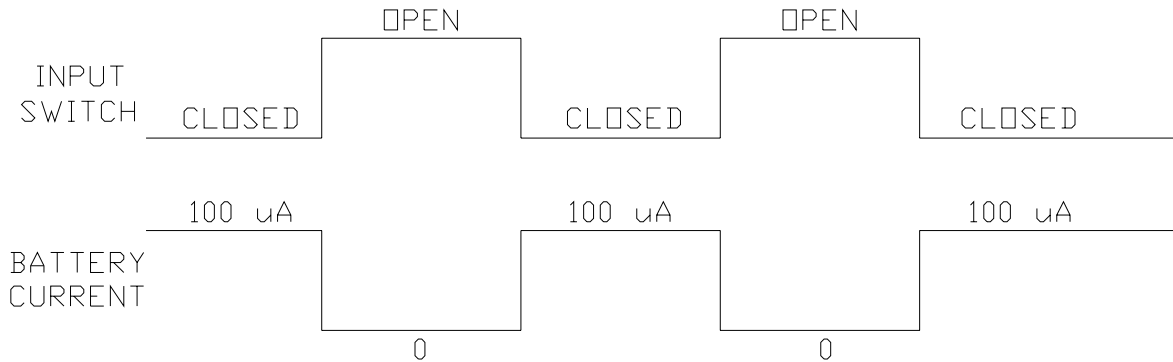
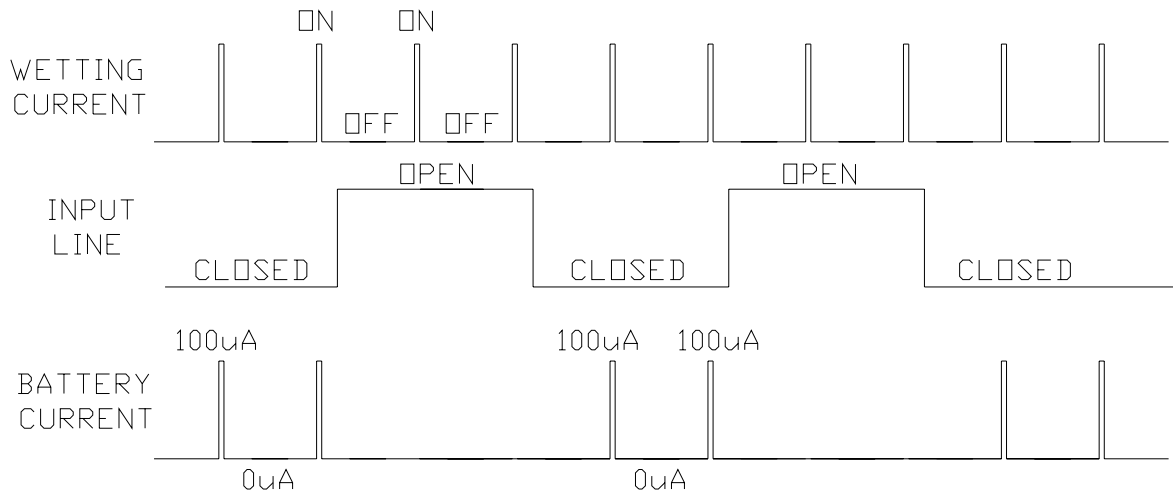

Figure-1
Figure-6
In order for a switch event to be recognized a small amount of current must pass through the switch contacts. This is called "wetting current" and is 100 μA (0.0001A) *per input*. Current is only consumed when the switch closes, as shown in Figure-1.
The "duty cycle" is the ratio of the amount of time the switch is in one state versus the amount of time it's in both states. Figure-1 shows a 50% duty cycle. Assuming all 8 inputs are like this, a total of 3.5 A/hr of battery capacity will be consumed each year (100 μA x 8 switches x 50% duty cycle x 24 hours per day x 365 days per year).
The wetting current is really only needed during the time that the SIP-CB is sampling the inputs. Otherwise it can be turned off to conserve power. This is illustrated in Figure-6. Now instead of each input drawing 100 μ A for 50% of the time (as was seen in Figure-1), it is only drawing it in very short bursts, perhaps 5% of the time.
Specifying a wetting current pulse width of 0 turns the wetting current on full time, as was illustrated back in Figure-1. There are a few reasons to do this:
- For best accuracy set the sample rate so that there are at least 2 samples within the shortest part of the input signal. See Figure-1 for a good example.